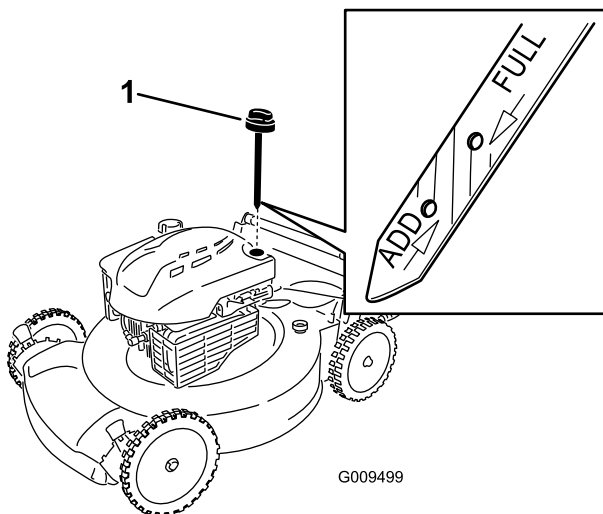

Figure 6
2. Remove the dipstick (Figure 6) and pour about 3/4 of the crankcase capacity of oil into the oil-fill tube.
5. Remove the dipstick and read the oil level on the dipstick; refer to Figure 6.